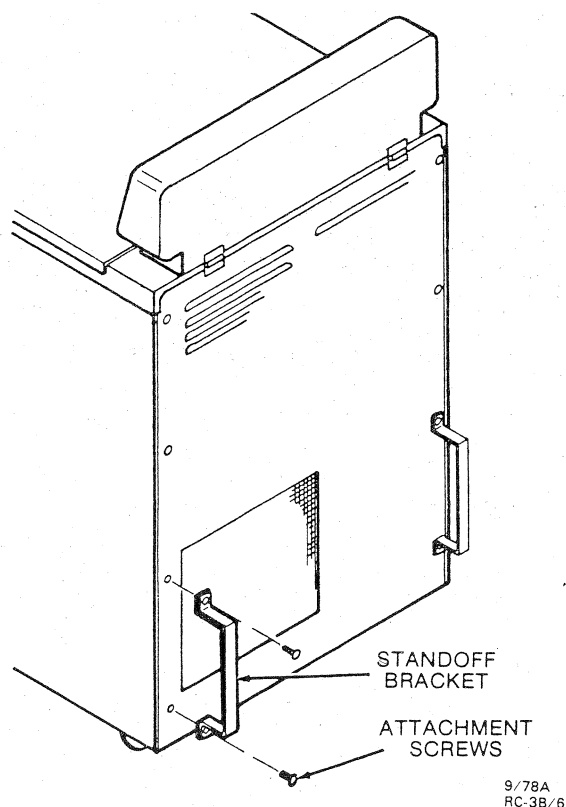

Figure 2-3. Standoff Bracket Attachment
1. Remove the two standoff brackets packed in the rotor chamber and attach them to the back of the centrifuge as follows (see figure 2-3).